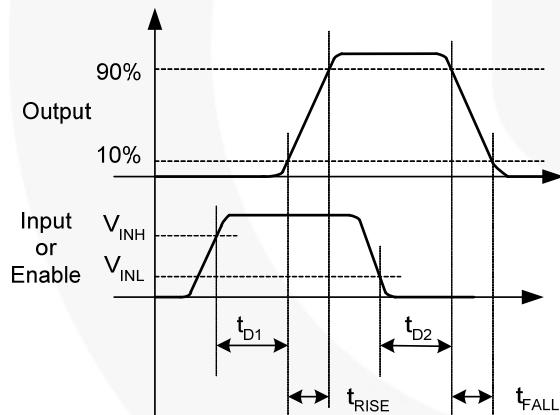
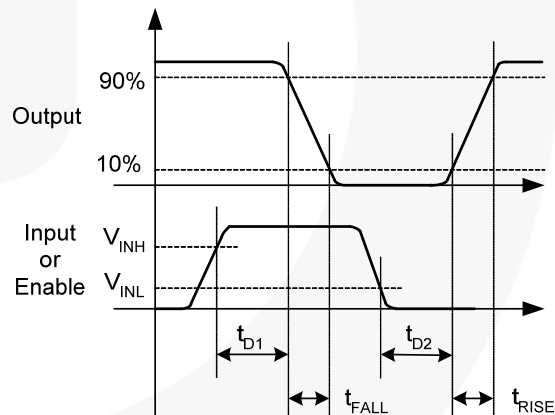

Figure 7. Non-Inverting
Figure 8. Inverting
10. See Timing Diagrams of Figure 7 and Figure 8.
12. See Timing Diagrams of Figure 7 and Figure 8.